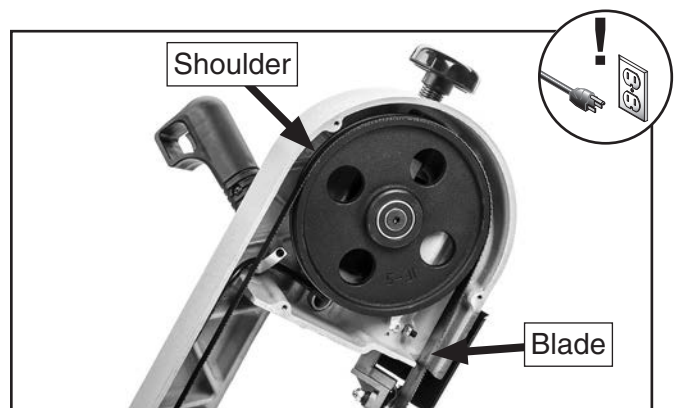

Figure 17. Blade against wheel shoulder.
9. Work your way around blade to adjust position so back of blade is against shoulder of wheels, as shown in **Figure 17**.